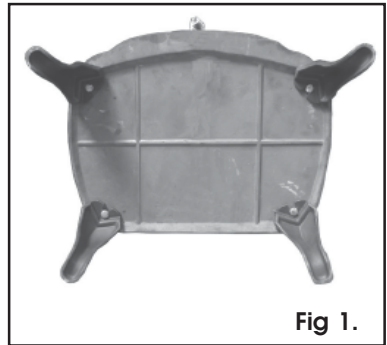

Fig 1.
2. Attach the legs using the bolts and large washers supplied as shown in Fig 1.